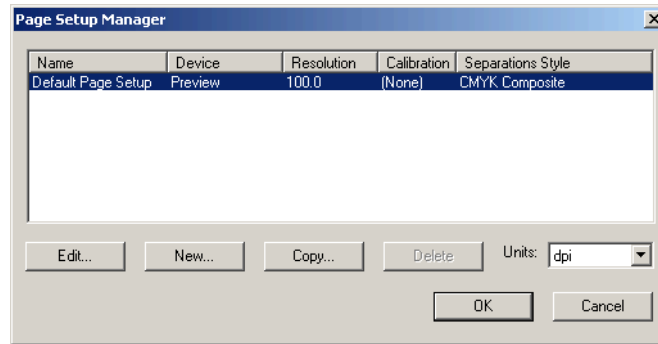

Figure 5 Page Setup Manager
1. Select Harlequin RIP > Page Setup Manager, to open the Page Setup Manager (Figure 5).